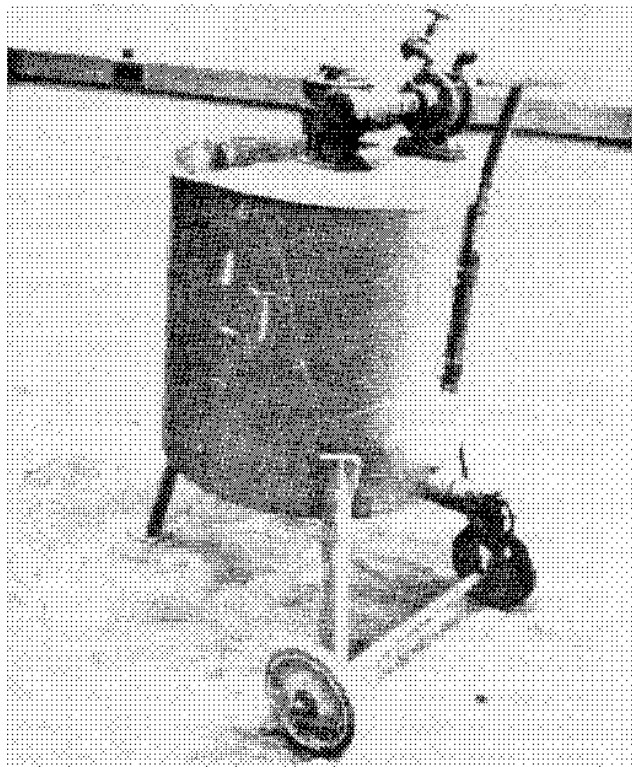

Figure 3-1. Mixing tank with mechanical mixing action
a. Mixing and blending tanks. Mixing and blending tanks (Figure 3-1) for chemical-grouting operations should be constructed of materials that are not reactive with the particular chemical grout or with individual component solutions. Tanks can be of aluminum, stainless steel, plastic, or plastic-coated as appropriate. Generally, the capacity of the tanks need not be large. The number and configuration of the tanks depend on the mixing and injection system used.